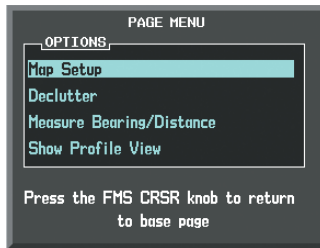

Figure 6-60 Navigation Map Page Menu
- 3) With 'Map Setup' highlighted, press the **ENT** Key (Figure 6-60).